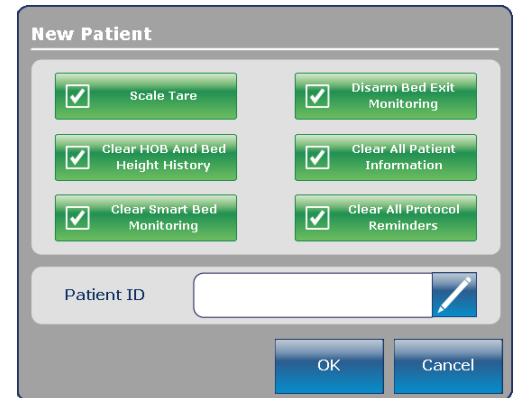

Figure 20 – New patient
1. Tap the pencil (Figure 20).
**Display Patient ID:** Displays the Patient ID. You can enter the Patient ID on the **New Patient** screen (Figure 20).